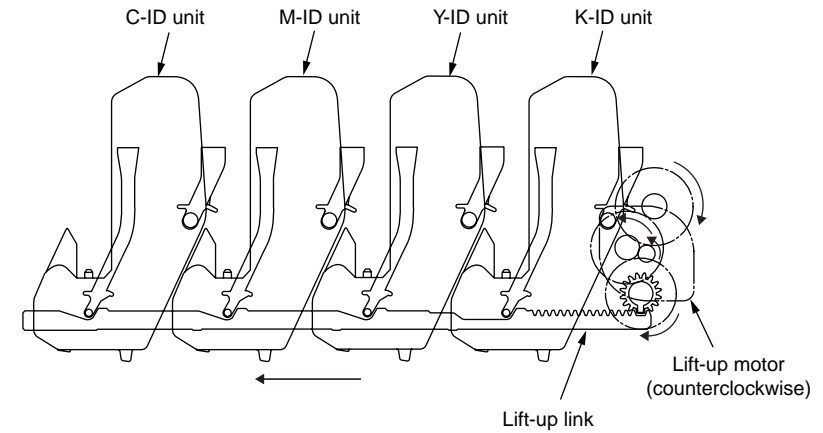

Figure 2-6
2. Figure 2-6 shows the motions of the different ID units when the printer is operated for color print. As the lift-up motor rotates (clockwise), the lift-up link slides to the left, causing the ID units to come down, as can be seen in Figure 2-6. Namely, the printer is readied for color print.